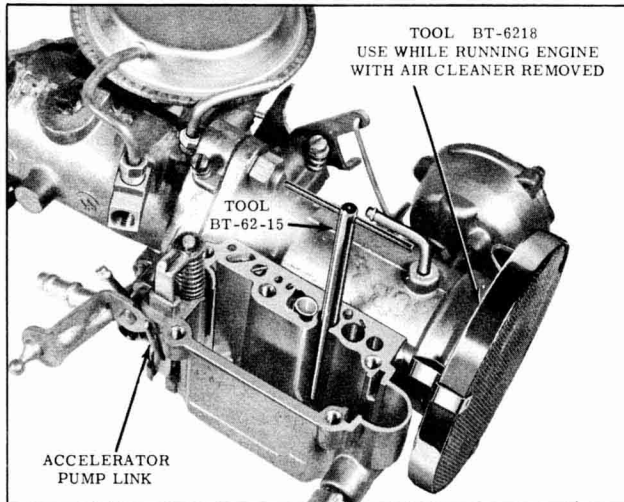

Fig. 9-126 Bowl Assembly
5. Install main metering jet, if removed, using special main metering jet Tool No. BT-62-15 (Fig. 9-126). Then install metering rod guide into top of main metering jet well.